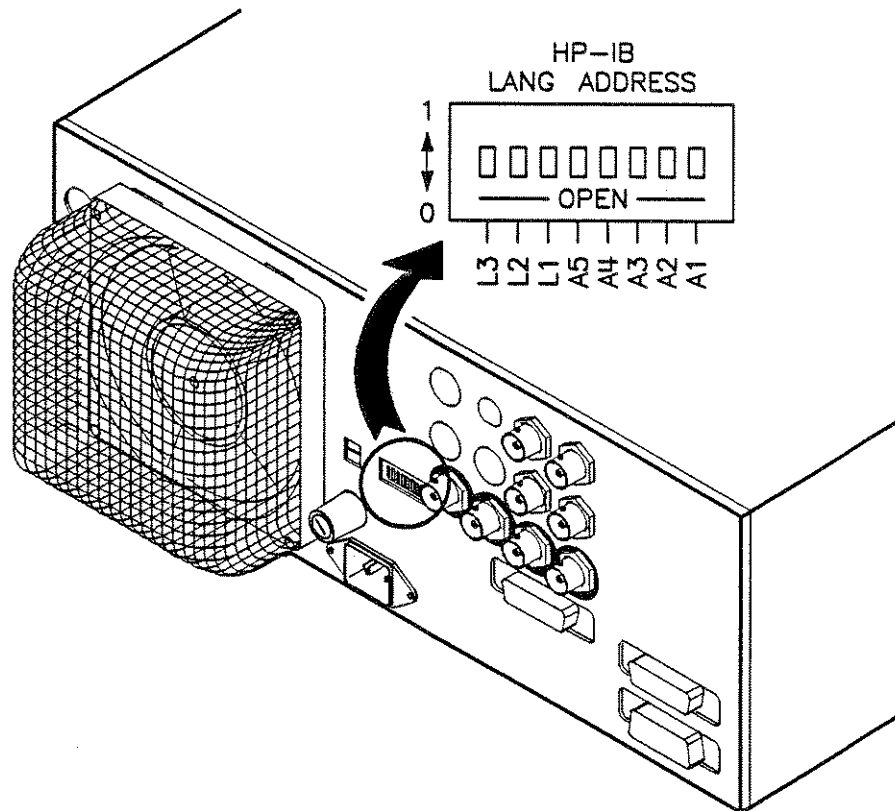

Figure 3-5. Rear Panel HP-IB Switch
To set a programming language from the front panel, the instrument language on the rear panel HP-IB switch (L1, L2, and L3 Figure 3-5) *must* be set to 7 (all 1s).
If the synthesizer displays Rear panel HP-IB language must be 7 (111) in order to change current language (=XXX), the address on the rear panel HP-IB switch (Figure 3-5) is set to something other than 7 (all 1s).
If your synthesizer does not have a front panel, set the rear panel HP-IB switch (Figure 3-5) for the language you want (see Table 3-1 for language addresses).
To set an HP-IB address from the front panel, the instrument address on the rear panel HP-IB switch (Figure 3-5) *must* be set to 31 (all 1s).
If the synthesizer displays **Rear panel HP-IB address must be 31 (11111)** in order to change current address (=XX), the address on the rear panel HP-IB switch (Figure 3-5) is set to something other than 31 (all 1s).
To disable the address softkeys, set the instrument address on the rear panel HP-IB switch (Figure 3-5) to any address *other than* 31 (all 1s).
If your synthesizer does not have a front panel, set the address on the rear panel HP-IB switch (Figure 3-5) to the address you want (factory default is 19).